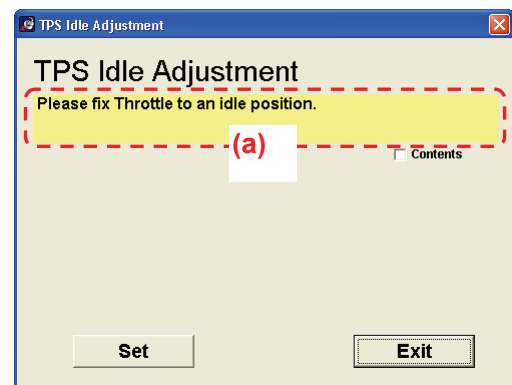

Fig. 9-5-2
- (2) Select this command from the menu bar and the TPS idle setting dialog box will appear. The second line of dialog box is the information box. (Fig. 9-5-2 (a))